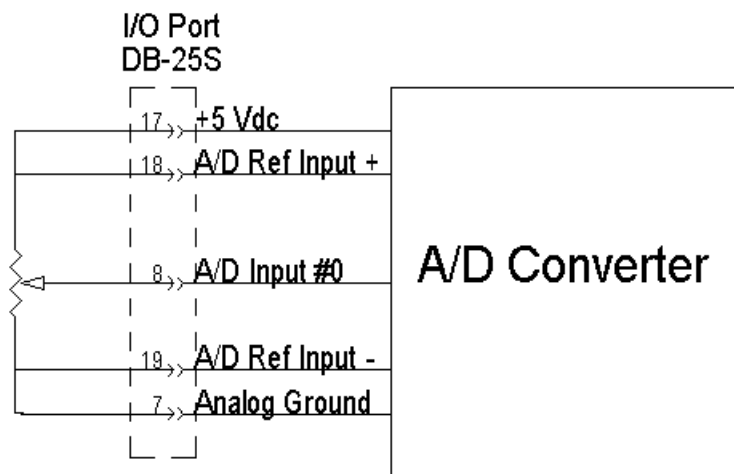

Figure 1.3 - A/D with Variable Resistor
- Connect a 0 to 5V DC analog device to A/D input #0, or you can connect a variable resistor as shown in Figure 1.3. The
- Connect A/D Ref Input- to analog ground (See Figure 1.3).